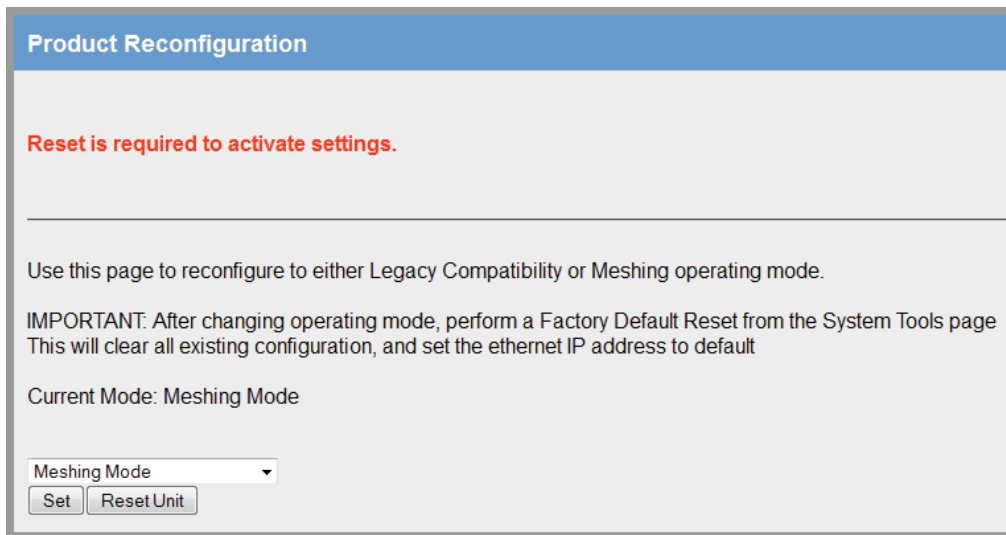

Figure 86 Product Reconfiguration
2. From the drop-down box (see Figure 86), select the from the following modes, and then click Set.